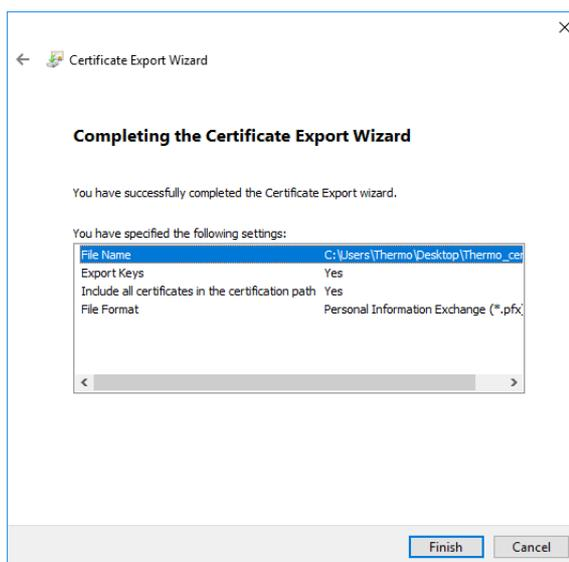

Figure 2-45. Completing the Certificate Export Wizard
10. Click **Finish** to complete the **Certificate Export Wizard**, see Figure 2-45.